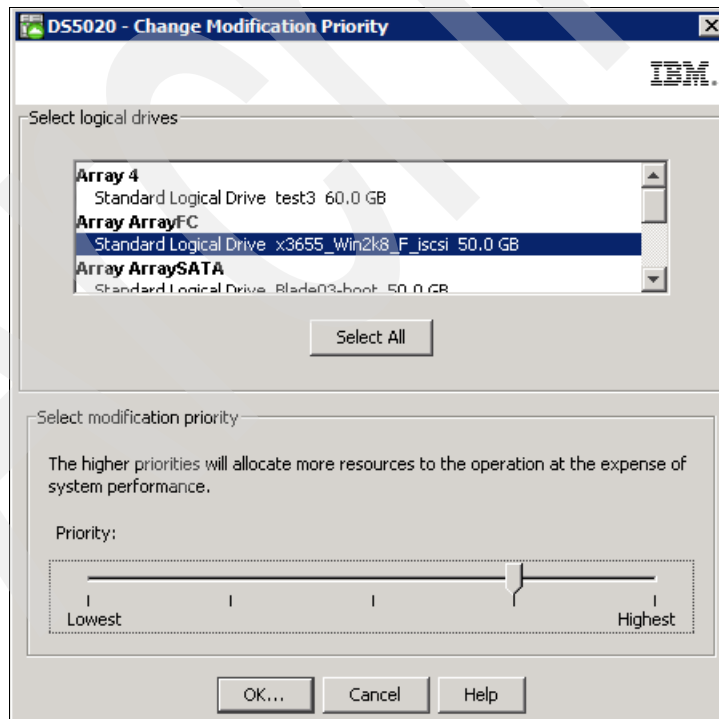

Figure 4-110 Modification priority for a logical drive
2. Make sure that the correct logical drive is selected, and set the new Modification Priority value, as shown in Figure 4-110.